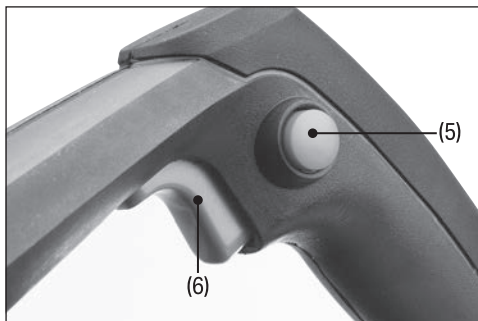

Fig. 3
7.1 ON/OFF Switch (Fig.3)
- The planer is fitted with a safety locking button (5) to prevent accidental starting.
- To start the planer – press the locking button (5) in and then operate the **ON/OFF** trigger (6).